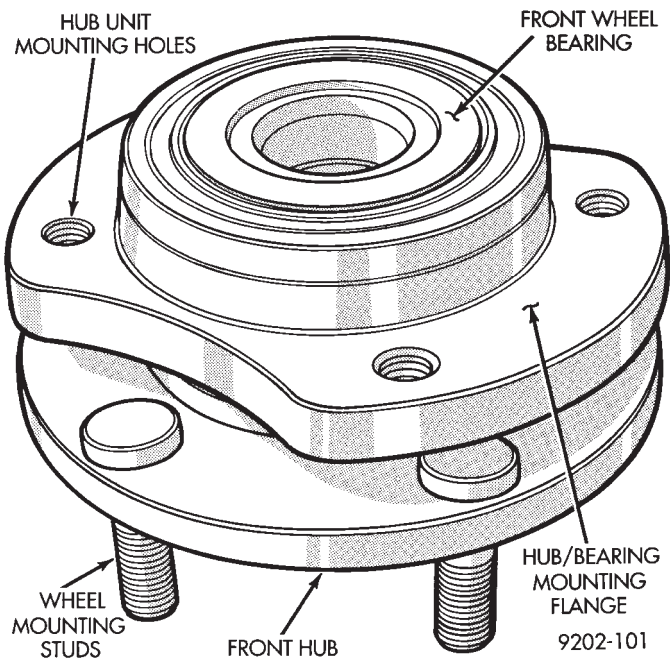
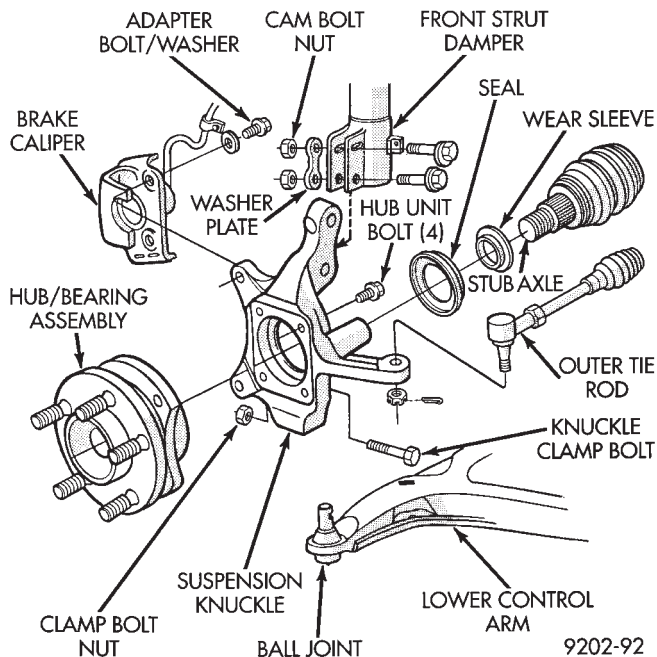

Fig. 1 Unit III Front Hub And Bearing Assembly
Fig. 2 Front Hub And Bearing Assembly Mounting
(9) Install the front brake caliper and adapter back over the braking disc and align with the adapter mounting holes on steering knuckle (Fig. 1). Install the caliper adapter to steering knuckle attaching bolts and torque to 217 N•m (160 ft. lbs.).
The Unit III Front Hub and Bearing (Fig. 1) is used on all Caravan, Voyager and Mini Ram Vans.
This unit is serviced only as a complete assembly (Fig. 1). It is mounted to the steering knuckle by four mounting bolts that are removed from the rear of the steering knuckle (Fig. 2).